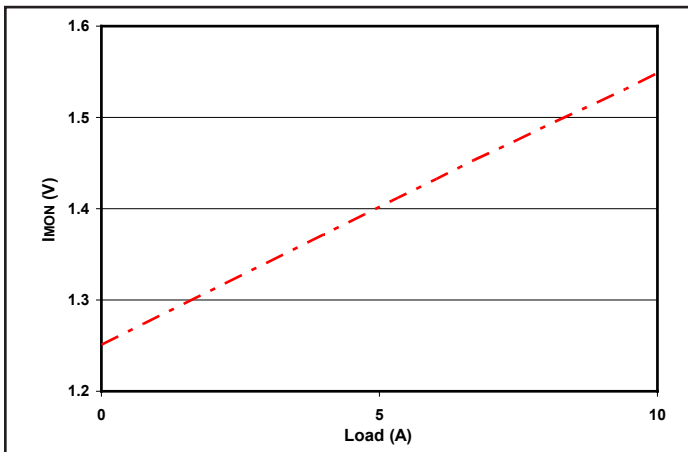

Figure 9: Imon pin voltage vs. load current at 16V input and 13.8V output. Load capacitance: 100µF electrolytic cap. C option only.
**Current monitor:** The  $I_{mon}$  pin voltage tracks the output current, as shown in figure 9. Zero load current is 1.25V and maximum rated load current is 1.83V. This pin has a 49.9 Ohm output impedance.